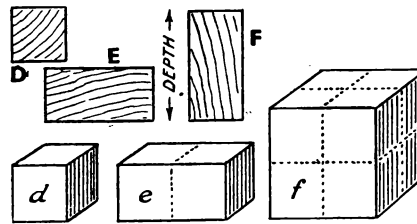

Fig. 3.—Stiffness in timber is an important property. E has only twice the stiffness of D, but F is eight times as stiff. Compare with Fig. 1 and see text.
**Stiffness and Elasticity** are closely related to resistance, but there is this difference. The deeper a beam is (that is, in height) its resistance to bending is greater than the resistance to direct load. Turn to Fig. 3, where the sections D, E, F are the same as those in Fig. 1 (A, B, C). E will be twice as stiff as D because its width has been doubled. In the case of F, however, it is the *depth* that has been doubled; and, whilst strength is proportional to the *square* of the depth, stiffness is proportional to the *cube*. Thus in Fig. 3, *f* has four times the stiffness of *e* and eight times that of *d*. Inversely, stiffness is proportional to the cube of the span, a beam twice as long as another being only one-eighth as stiff. In joists which carry plaster ceilings the quality of stiffness is of even more importance than strength.